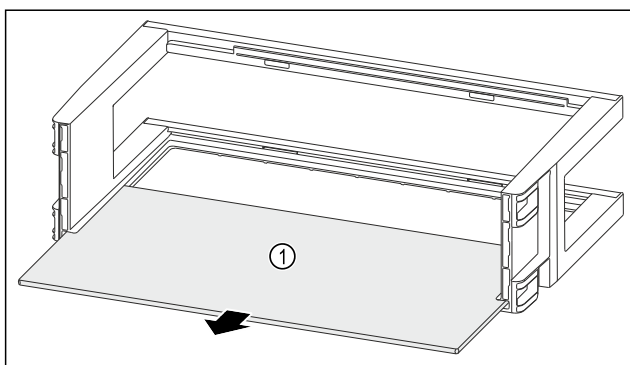

Fig. 139
- ▶ Remove the shelf Fig. 139 (1).